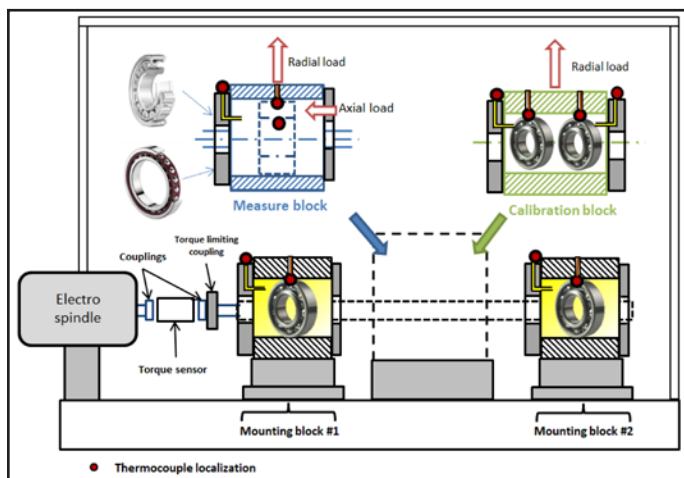

Figure 2 Test rig operation.
- **Measure phase:** Two REBs (calibration block) are removed and replaced by the tested REB (Fig. 2). The torque loss of mounting blocks (determined in calibration phase) is subtracted to the global torque measurement in order to isolate the contribution of the tested REB.